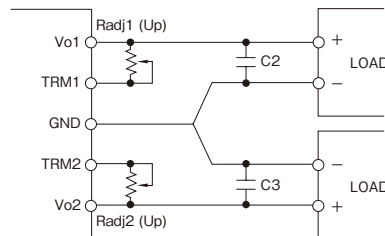

Fig.3-2: Connection for output voltage trim up
- a)  $V_{o1}/V_{o2}$  terminal: to adjust to higher output voltage; Fig. 3-2 or